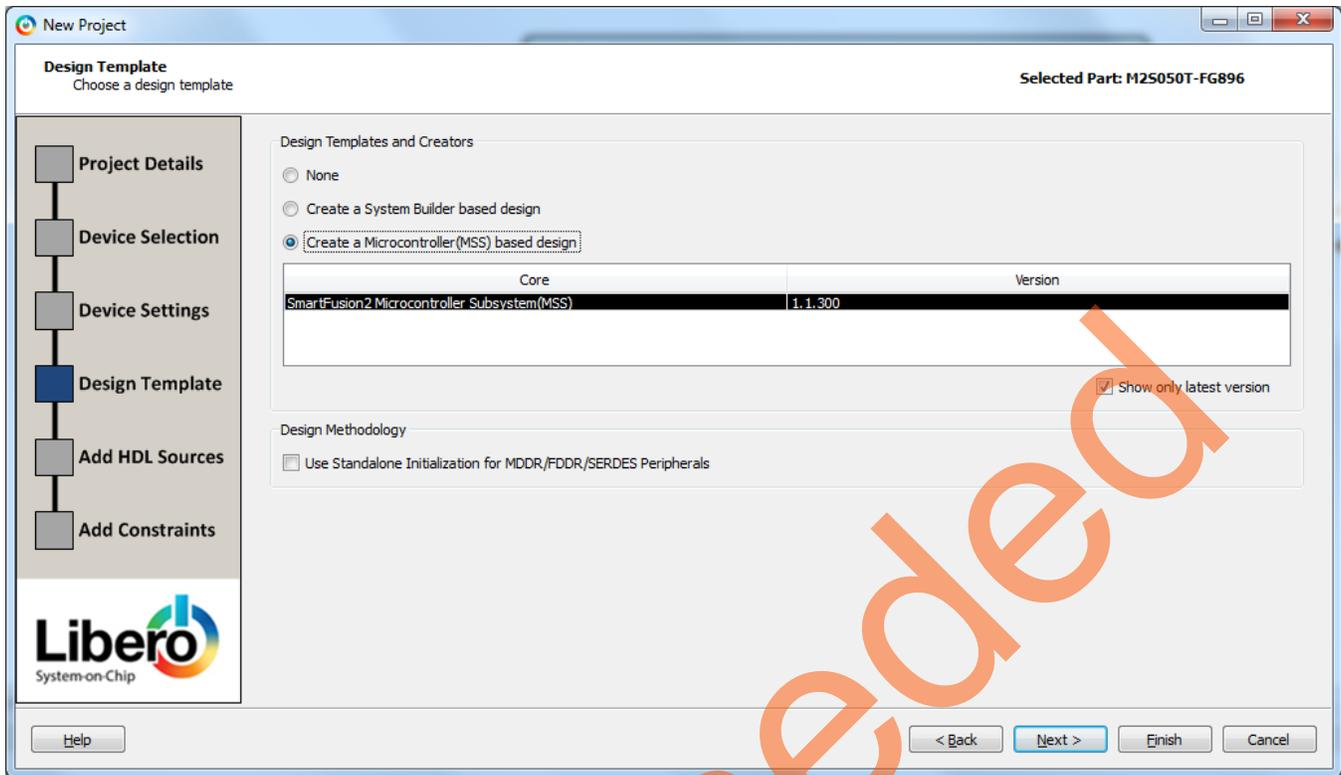

Figure 4. New Project – Design Template Page
6. Click **Next**. **Figure 4** shows the **Design Templates and Creators** page and select the **Create a Microcontroller (MSS) based design** check box under **Design Templates and Creators**. If the selected MSS core version appears in italics, it means that the selected MSS Core is not available in the vault and it requires to be downloaded. To download, select the MSS core and click **OK**. The tool prompts for downloading the MSS core. Click **Yes** on the message prompt. The tool downloads the selected MSS core.
If the selected MSS core appears in normal font, as shown in **Figure 4**, it indicates that the MSS core is present in vault.